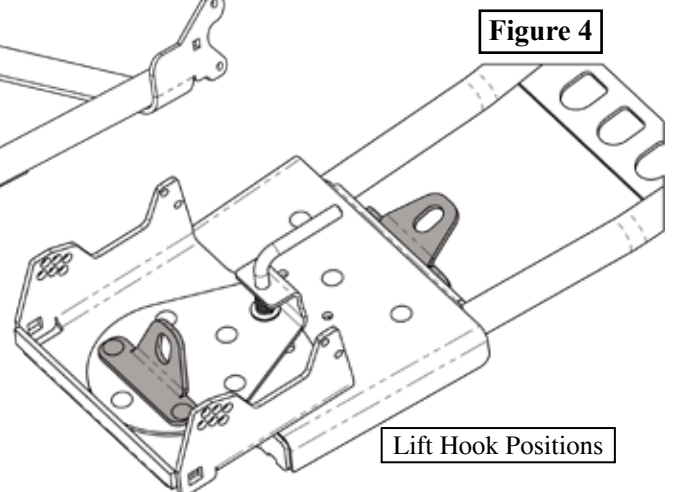

Figure 4
5. The lift hook can be relocated if it gives a better lift angle from your machine as shown in **Figure 4**.